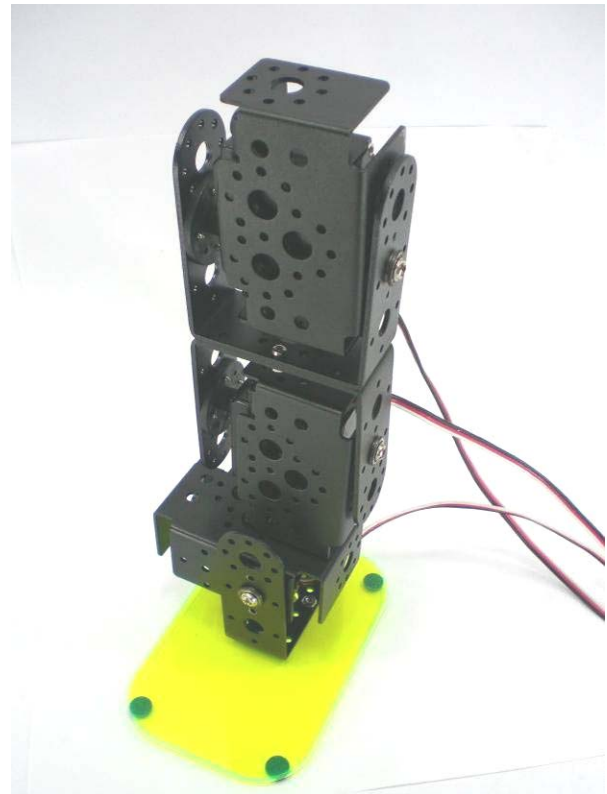

Figure 68
20. Mate the leg and base with B set screw, rivets and bearing as shown in figure 68 until 72.